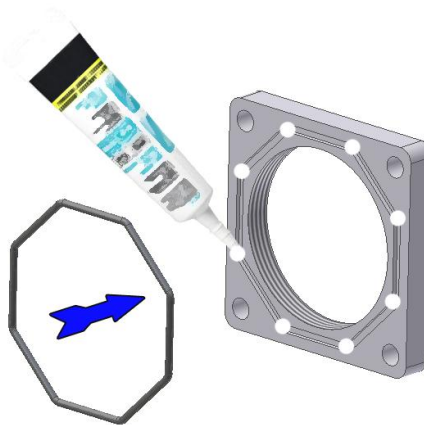

Figure 5 - Form O-ring
Add small dabs of silicone adhesive to the valve mount plate (1) (P/N 27-662-C) as shown in Figure 5. Form the o-ring (3) (P/N 42-RNG-036) to fit the octagonal groove. Hold the o-ring in place until it remains seated.